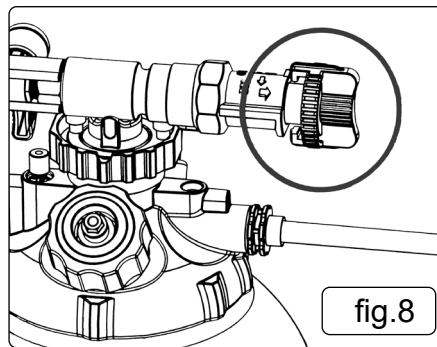

fig.8
4.2.1. Switch the IN & OUT knob to "IN" position. (fig.8)